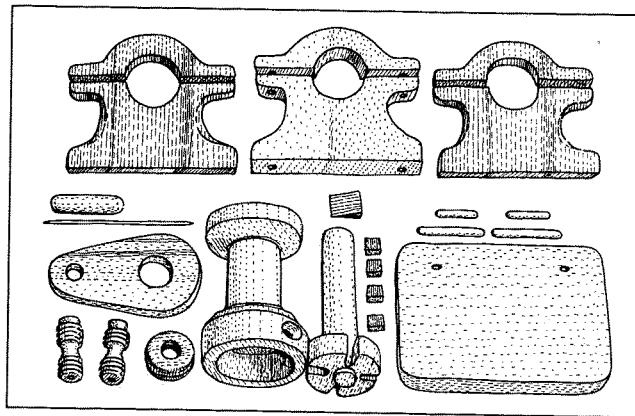

FIGURE 8-15
- 1** Check the component parts for potential problems and make sure they fit together (Fig 8-15).